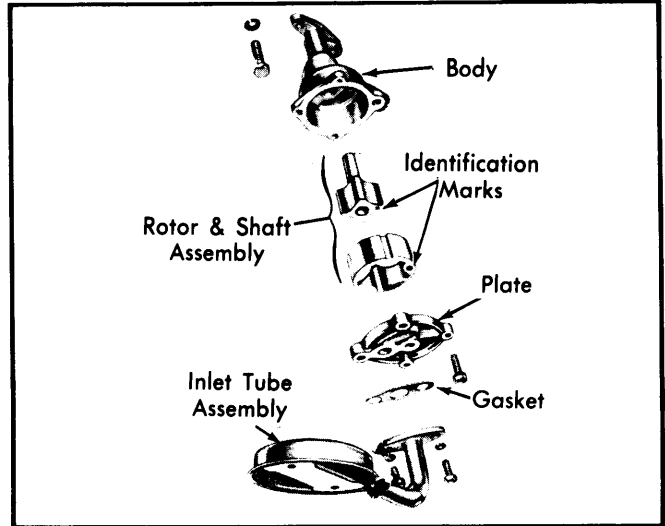

**Fig. 10 Engine Oiling System**
**Rocker Arms, Push Rods & Valve Stems** — Oil from lower hole in rear camshaft bearing flows around grooved rear camshaft journal. It passes out through upper hole in rear camshaft bearing and up through vertical passage in block. Still under pressure, oil is then pumped around left rear corner cylinder head bolt to oil port at rear rocker arm shaft bracket. Oil is then forced through hollow rocker arm shaft and thence to each rocker arm, push rod and valve tip. Oil from rocker chamber runs down push rods to lubricate push rod seat and lifter. Finally, oil drains back to pan through cored openings in block. See Fig. 10.